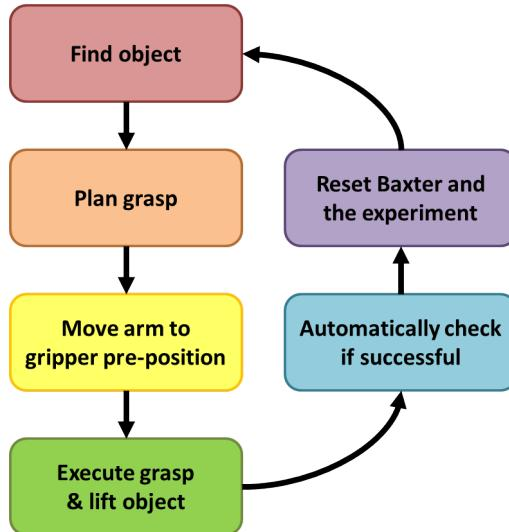

Figure 1: Workflow for Lab 2.
The purpose of this lab is to combine many of the topics presented in this course to plan and execute a grasp with Baxter. This will consist of detecting the object to grasp, planning a stable grasp, moving into position, closing the grippers, and lifting. The block diagram in Figure 1 shows the workflow you'll be implementing.
- Methods for implementing each of the blocks in Figure 1 *流形图*